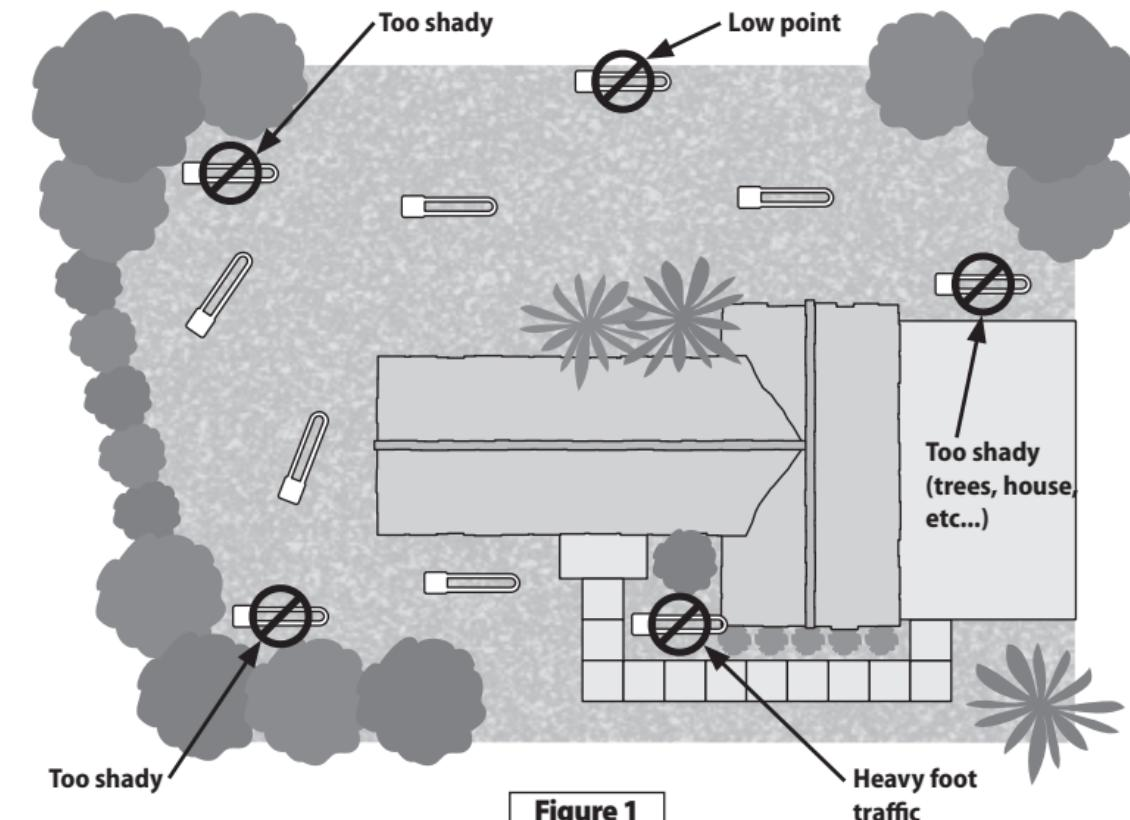

Figure 1
4. Choose a full sun turf zone for the sensor installation (see Figure 1 & 2).